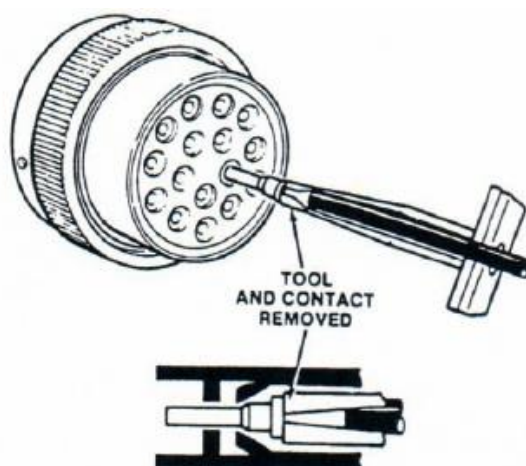

Figure 150
- C. Once the wire has seated into the contact carefully slide the wire, removal tool and contact out of the receptacle. Figure 150